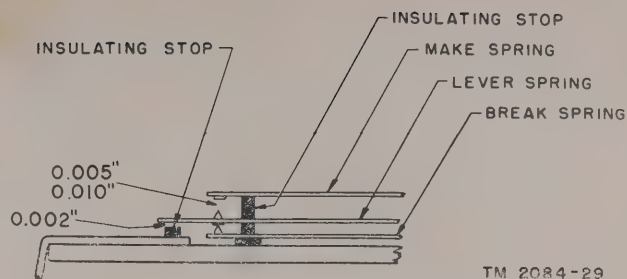
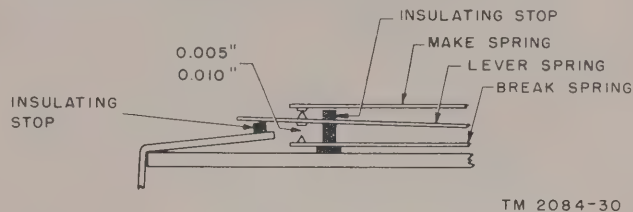

Figure 27. Make contact spacing, normal position.
Figure 28. Break contact spacing, operated position.
(a) *Make-contact spacing (fig. 27)*. To insure effective spring operations, it is necessary for the lever spring to move 0.005 to 0.010 inch to contact the make spring, which means that the separation between the lever spring and the make spring contacts is likewise nor-
- (b) *Break-contact spacing.* The break contact (fig. 27) rests solidly on the stop and does not move. The lever spring, therefore, separates from the break contact by approximately 0.005 to 0.010 inch when fully operated (fig. 28). The lever spring in its nonoperated position should have a perceptible separation of at least 0.002 inch from the armature stop or lever springs; this insures a solid nonoperated contact on the break spring.
2. *Single break or make assemblies.* A break-only contact unit is designed the same as the break-make in figure 27 except that the make spring is omitted. In a make-only contact, the bottom spring minus its contact is retained to hold the insulating stop in position. Note that the upper portion of the stop is used to support and maintain the make spring in its nonoperated position, otherwise the open contact spacing and lever spring movement is the same as in a break-make assembly.